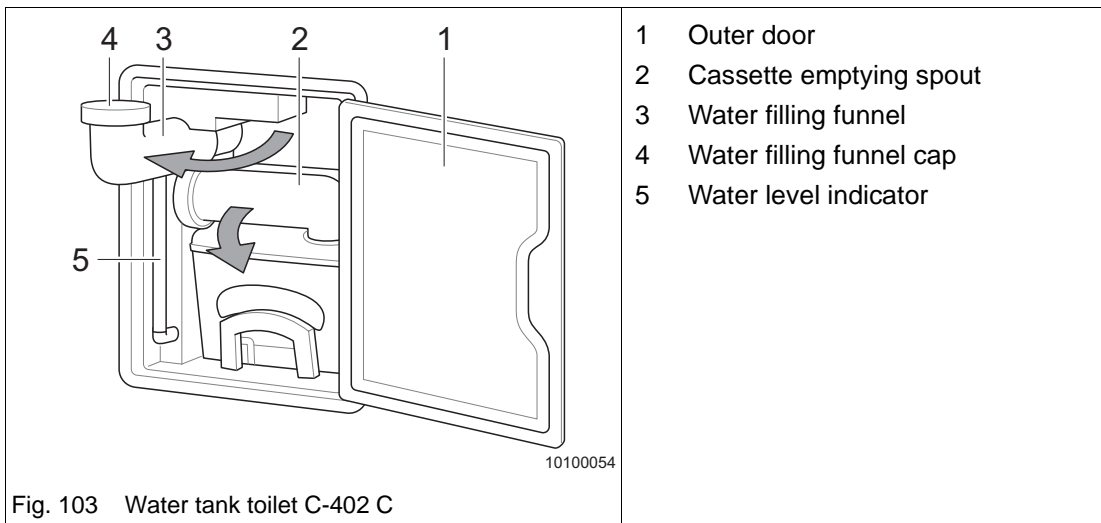

Fig. 103 Water tank toilet C-402 C
- ➔ Open the outer door (Fig. 103/1) for the cassette and water fill funnel.
- ➔ Swivel the cassette emptying spout (Fig. 103/2) out about 90° and remove the water tank extension (Fig. 107/4).
- ➔ Swivel the water filling funnel (Fig. 103/3) out about 90° and unscrew the cap (Fig. 103/4).
- ➔ Observe the water level in the tube (Fig. 103/5) and fill with water up to just under the water filling funnel.
- ➔ Screw the cap (Fig. 103/4) back on and swivel the water filling funnel (Fig. 103/3) back in.
- ➔ Store the water tank extension (Fig. 107/4) on the cassette and swivel the emptying spout of the cassette (Fig. 103/2) back in.
- ➔ Close the outer door (Fig. 103/1).